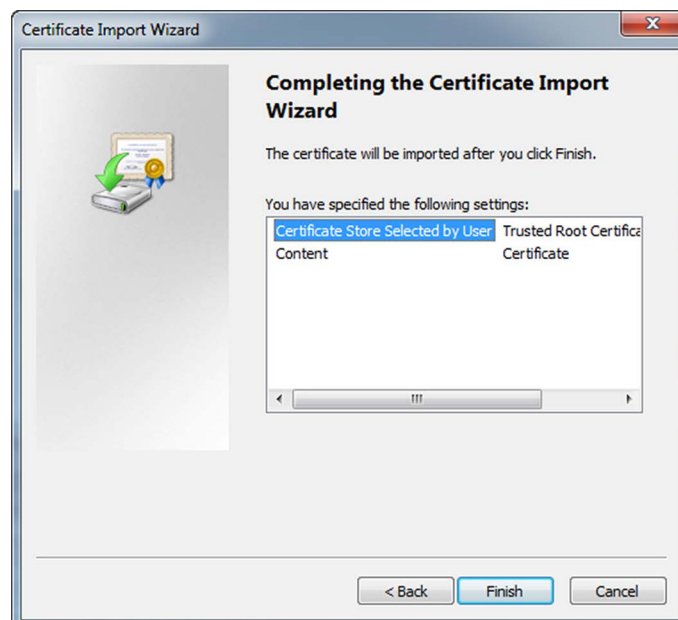

FIGURE 3-17
- i) Click **Next**. The *Certificate Import Wizard - Completing* window is displayed (see FIGURE 3-17).